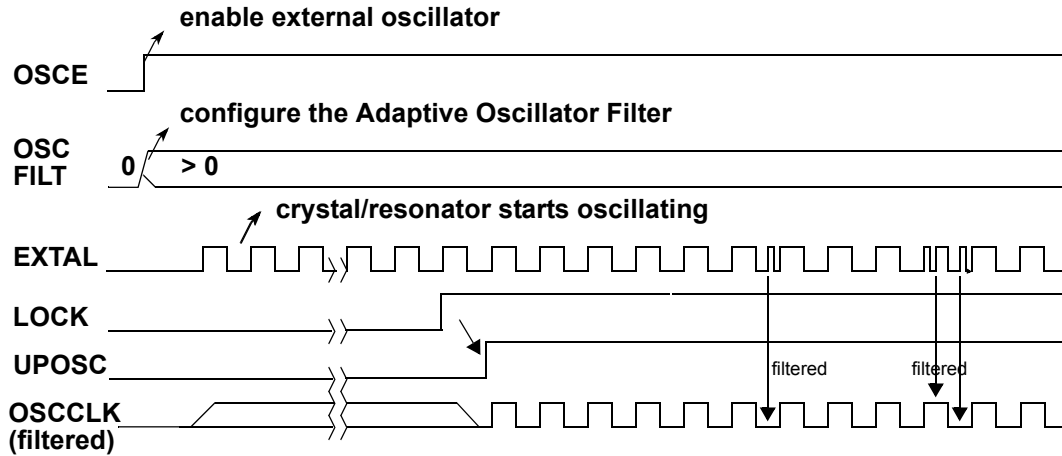

Figure 98. Noise filtered by the Adaptive Oscillator Filter
1. Filter noise (spikes) from the incoming external oscillator clock. The filter feature is illustrated in Figure 98.